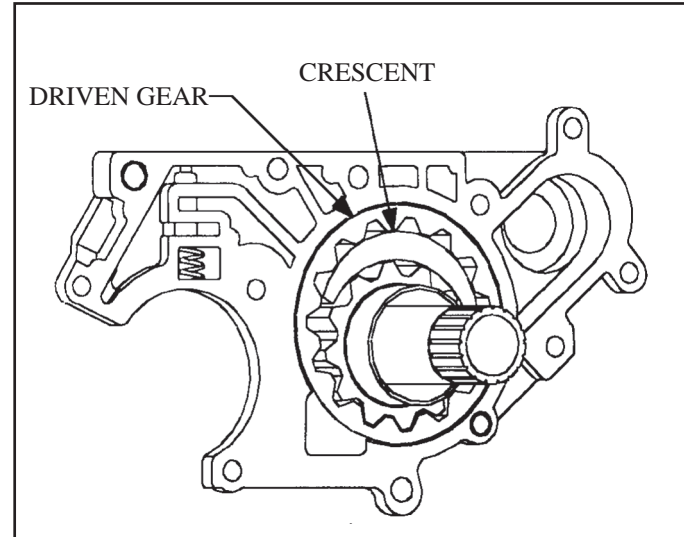

Figure 148
6. Measure the clearance between the driven gear and the crescent in the pump housing as shown in Figure 148.